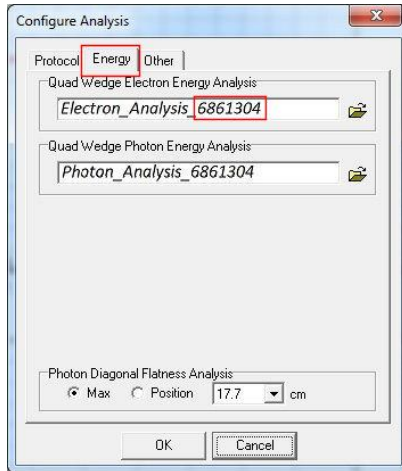

Figure 22: SNC Configure Analysis Screen
3. Navigate to the *Setup > Analysis* screen and select the **Energy** tab (Figure 22).